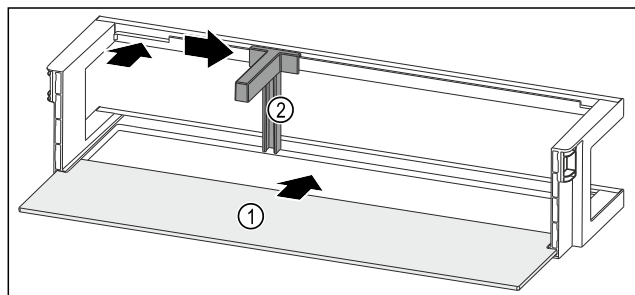

Fig. 136 Door rack with shelf
- ▶ Push the shelf *Fig. 136 (1)* into the side recesses.
- ▶ Insert the bottle holder *Fig. 136 (2)* in the recess.
- ▶ Push the bottle holder *Fig. 136 (2)* to the desired position to the side.